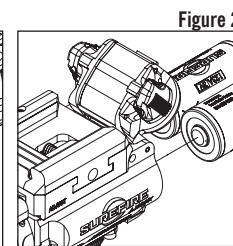

Figure 2
2. Insert SureFire 123A batteries with terminals oriented as shown on inside of battery cover (Figure 2).